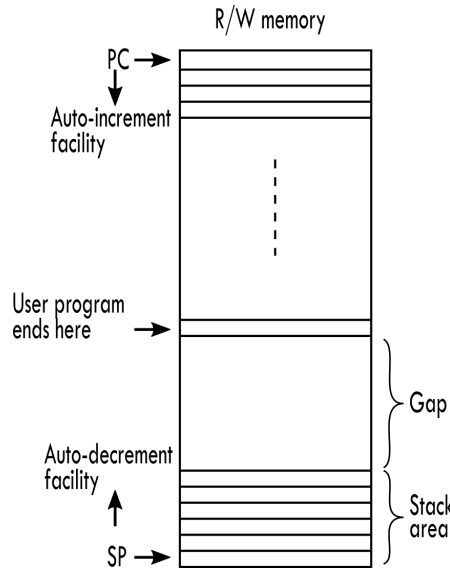

Figure 3.3: Auto-increment and Auto-decrement Functionality for the PC and SP registers
- **Program Counter (PC):** It is a 16-bit register that holds the address of the next instruction to be executed. It gets automatically incremented (+1) after fetching each instruction.
- **Stack Pointer (SP):** It is a 16-bit register which points to the 'stack'. The stack is an area in the R/W memory where temporary data or return addresses (in cases of subroutine CALL) are stored. Stack is an auto-decrement facility provided in the system. The stack top is initialized by the SP by using the instruction LXI SP. Figure 3.3 illustrates the auto-increment and auto-decrement functionality for the PC and SP registers, respectively.
- **Instruction Register (IR):** It is a non-programmable register that temporarily holds the opcode of the instruction being fetched from memory. The opcode is a part of the instruction that specifies the operation to be performed by the microprocessor.